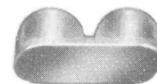

Fig. 4—KS-19478 L1 Guard
4.03 KS-19478 L1 Guard: In order to prevent interference with special circuits, the KS-19478 L1 guard (Fig. 4) is used to cover two test terminals (tip and ring) on the test terminal field of the 302-type connector.